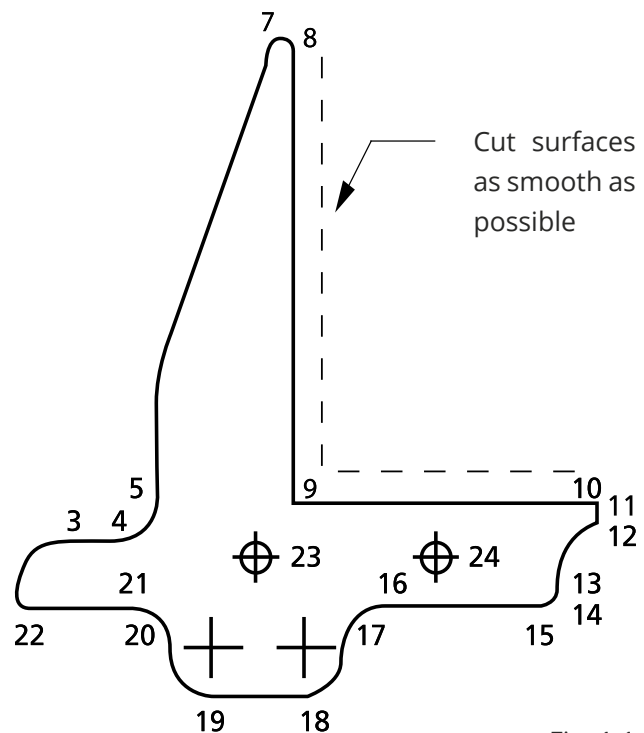

Fig. 1.1
- When programming laser-cut products, note the place of insertion, if necessary by indicating where the insertion absolutely must NOT be located. This is because the insertion usually causes an unevenness on the product, which can pose an obstacle to the product's function or to subsequent processing. (Fig. 1.1)